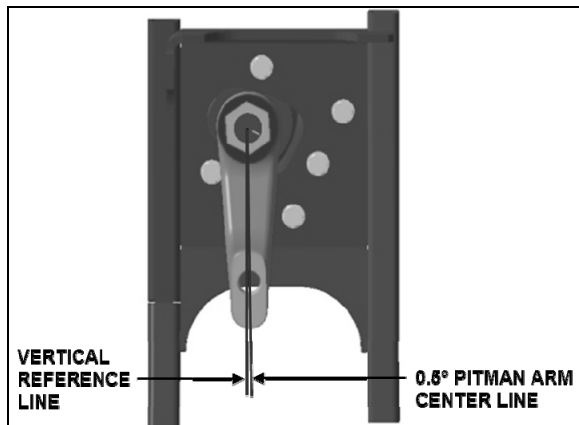

FIGURE 24: IFS PITMAN ARM ALIGNMENT
- Check that the angular relationship of the pitman arm to the steering gear is as shown in figure 24.